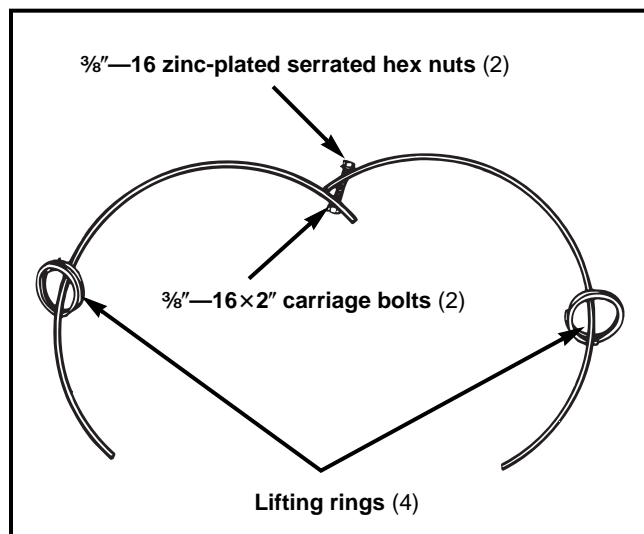

Figure 1. Assembling spare interrupter container.
nished with a loosely attached  $\frac{3}{8}$ "—16×2" carriage bolt at each end. Position this container-half so that the carriage-bolt threads protrude through the holes at the ends of the other container-half as shown in Figure 1.
- (b) Thread a  $\frac{3}{8}$ "—16 zinc-plated serrated hex nut on each of the two  $\frac{3}{8}$ "—16×2" carriage bolts. Tighten each hex nut just a few turns. See Figure 1.
- (a) Remove the two container-halves from the shipping crate. Note that one of the container-halves is furnished with a loosely attached  $\frac{3}{8}$ "—16×2" carriage bolt at each end. Position this container-half so that the carriage-bolt threads protrude through the holes at the ends of the other container-half as shown in Figure 1.